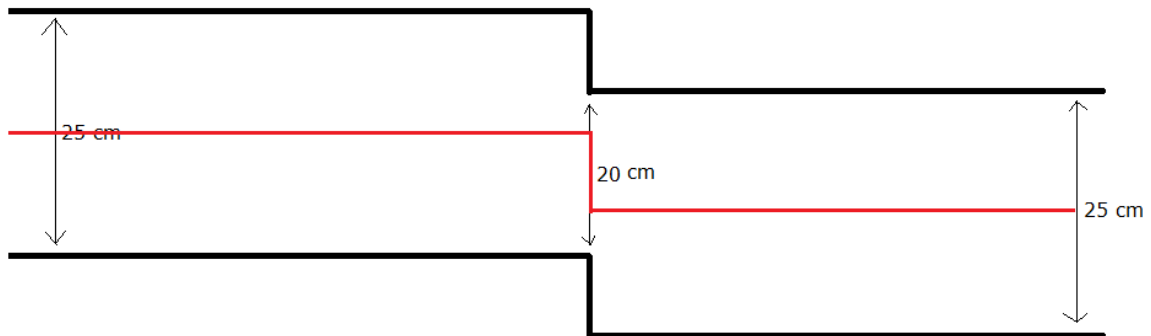

Figure 5: A Bump Test Set-Up for Distance Control System
- The method for getting step response step response. Two alternatives can be seen from *Figures 5 & 6*.